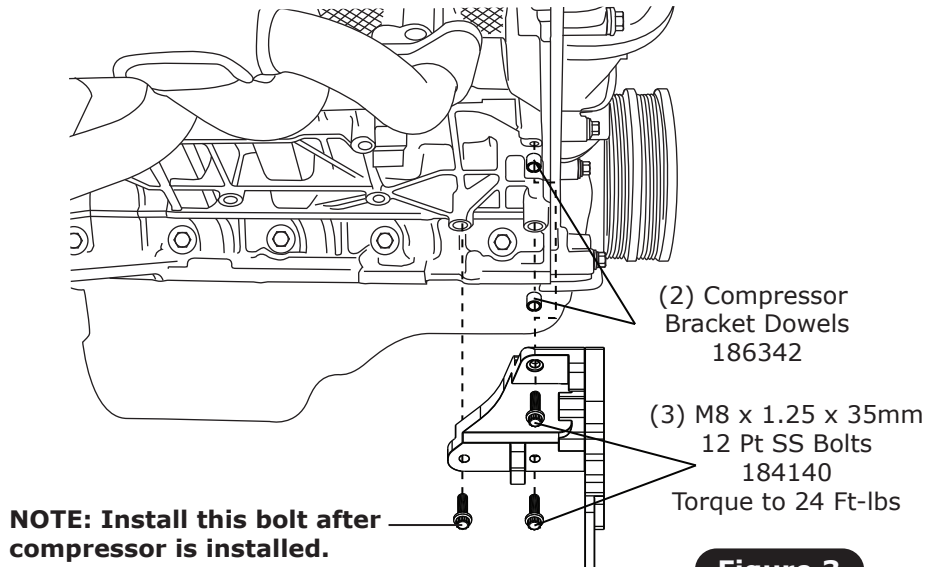

Figure 3
1. Mount two-piece bracket assembly to mounting bosses as shown in Figure 3, below.